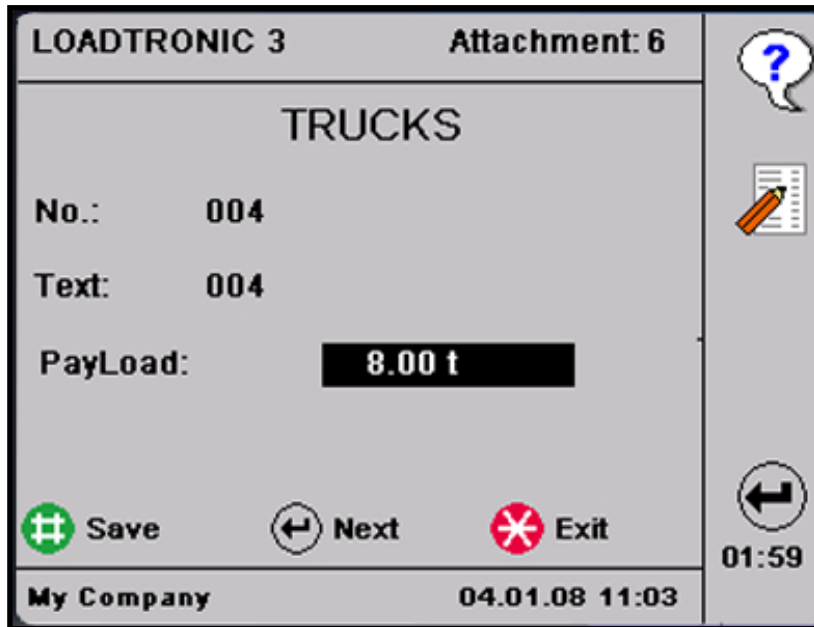

Figure 4-6 Edit the trucks description and PayLoad.
5. Set the PayLoad, refer Figure 4-6: